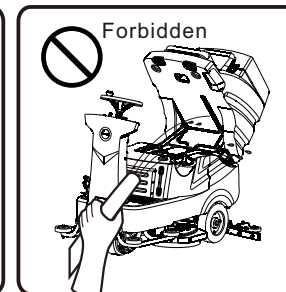
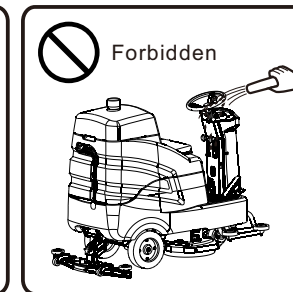

fig. 9
fig. 10
4. Water spilling to the inner parts and the control panel should be avoided when cleaning the machine. Otherwise, water ingressing may cause short circuit. (fig.9 & fig.10).